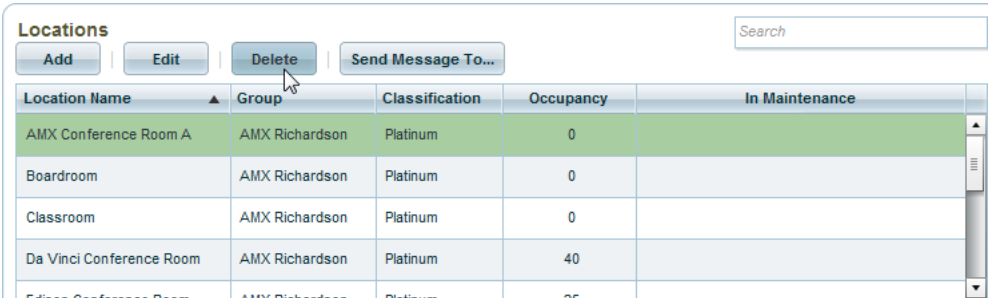

FIG. 188 Locations window - Delete button
- 2. Click **Delete** (FIG. 188):